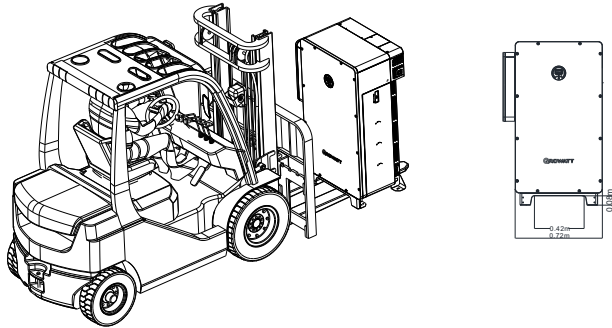

Fig 5.7 Moving the WIT Inverter with a forklift
- 2> As shown in Fig 5.7, operate the forklift to insert the tines into the pallet openings to lift the inverter and then transport it to the installation position. (The fork width should be smaller than 16.54 inches);